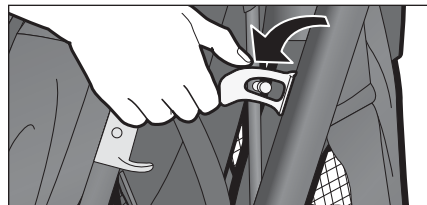

Figure 3.1
- 1 Unlatch side frame lock. **Figure 3.1** .